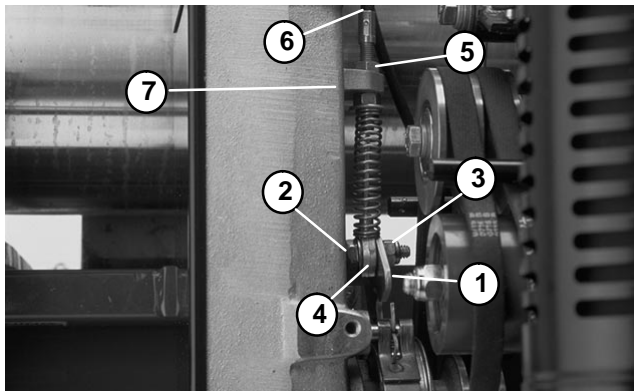

Figure 5
3. Remove brake cable from the countershaft housing as follows (Fig. 5):
4. Run new brake cable to the countershaft assembly. Install new brake cable to the countershaft housing and brake lever as follows (Fig. 5):